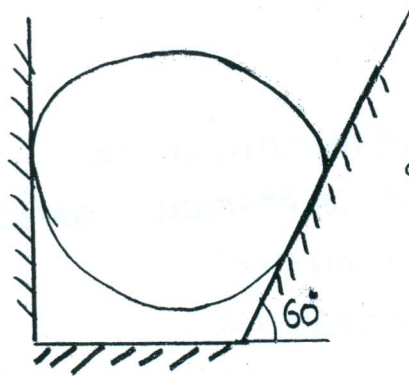

Fig. 1
(B) Draw free body diagram of Fig.1. 01